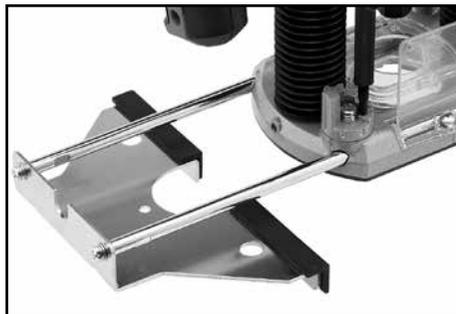

FIG.9
9.4 PARALLEL GUIDE ROUTING – FIG. 9